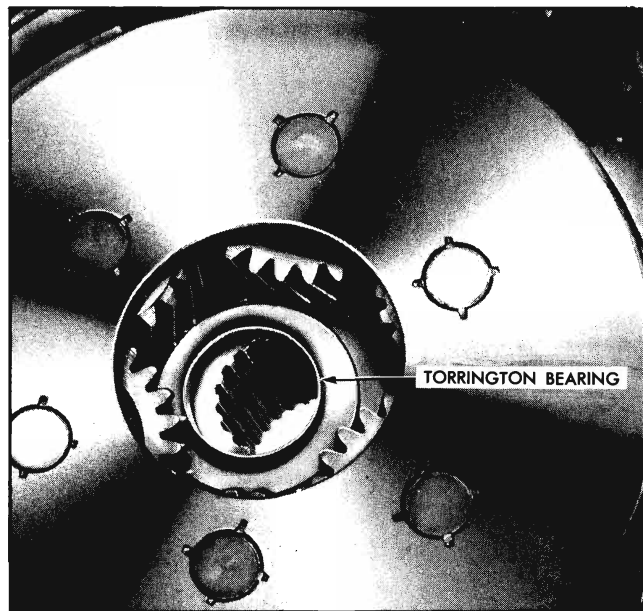

Fig. 7A-39 Torrington Bearing
18. Loosen low band adjusting screw and remove low band, apply strut and reaction strut (Fig. 7A-37).